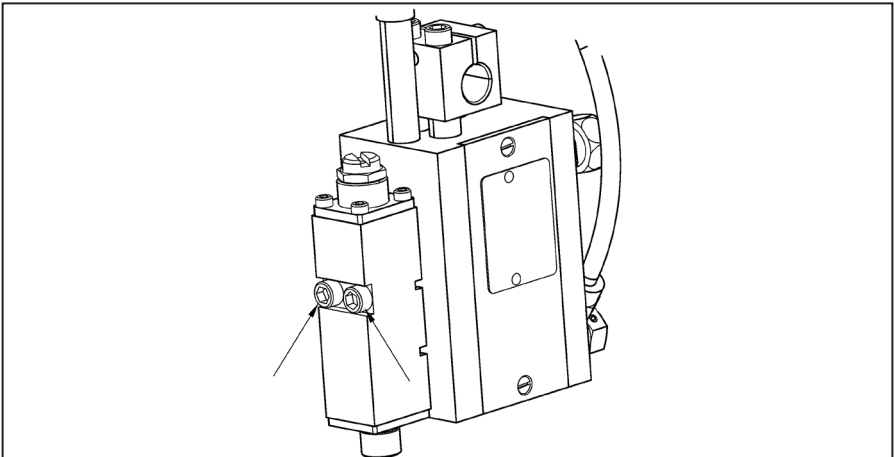

Bild 4: Replacement of the B200-FJ module
4. Loosen the screws (M5) shown in fig. 4 with a hexagon socket wrench (4 mm) and remove it.